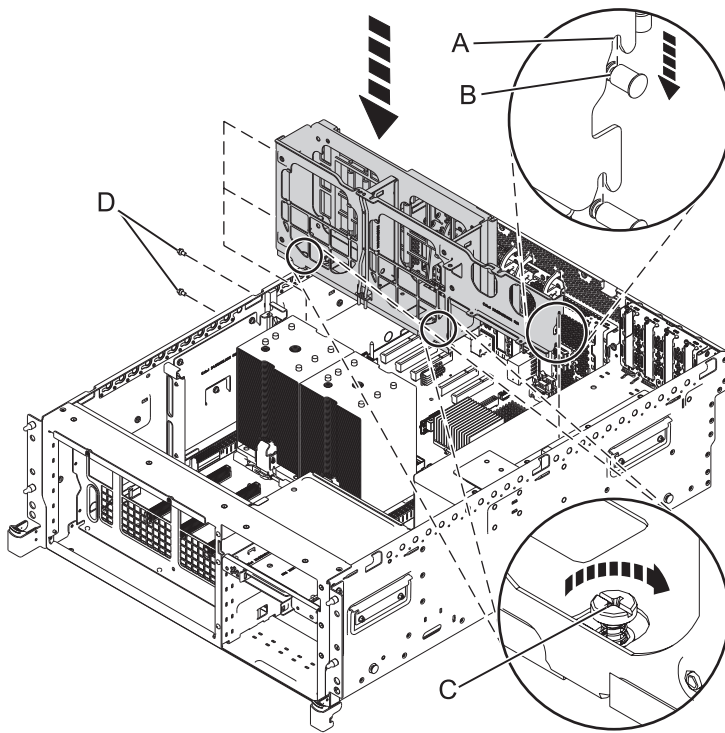

Figure 14. Installing the fan cage
- a. Lower the fan cage into position ensuring that alignment groove (A) and alignment pin (B) are correctly aligned. See Figure 14.
- b. Tighten the two screws (D) that secure the fan cage to the system chassis.
- c. Tighten the screws (C) that secure the fan cage.